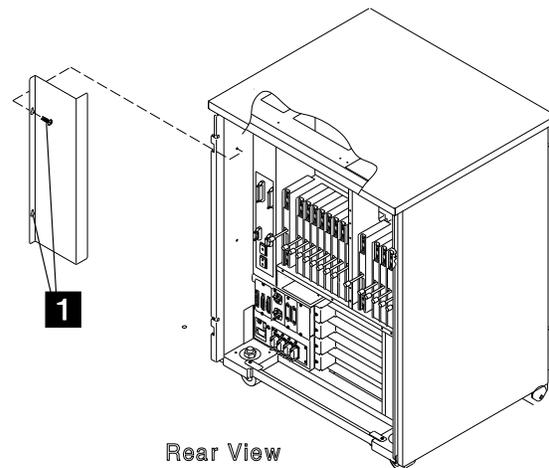

Figure 4-91. Power Supply 1 (PS1) Cover
7. Remove the DMUX/PS1 cover. Refer to Figure 4-91. Two screws must be removed **1**.